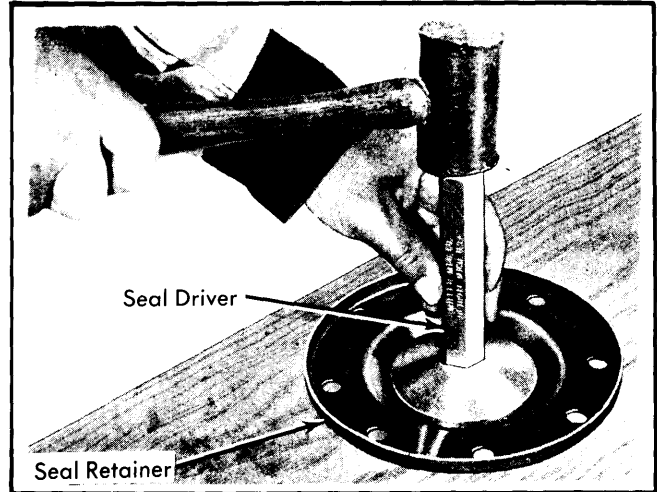

Fig. 4 Installing Drive Pinion Oil Seal in Retainer
4) Remove yoke. Lubricate pinion seal lip and coat outside of seal with a non-hardening sealer. Install seal in cover using a suitable driver. See Fig. 4. Install bearing cover and seal, using a new gasket. Install pinion yoke, washer and nut. Hold yoke and tighten nut to specification. Install cotter key. Do not back off nut to align cotter key hole. Place original pinion depth shims over studs in carrier. Position pinion bearing cage and drive pinion over stud and tap into position using a soft hammer. Install lock washers and nuts. Tighten nuts to specification. If a new ring gear and pinion are being installed, proceed to Pinion Depth Adjustment.